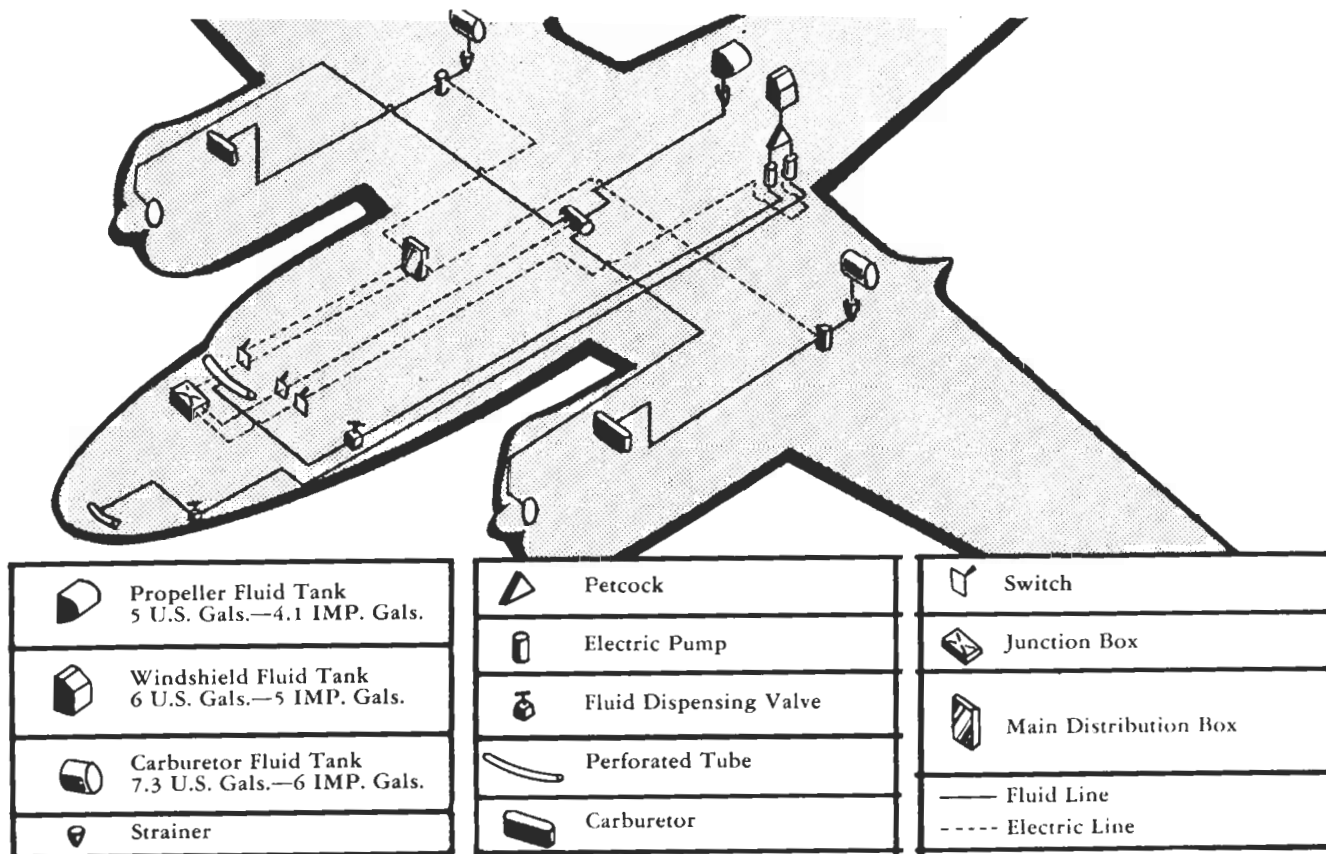

Figure 29 — Anti-Icing System Diagram
n. ANTI-ICING SYSTEM. (See figure 29.)